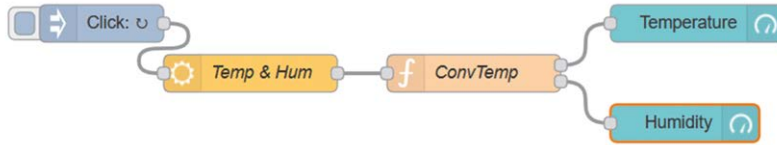

Figure 8.14 Flow program of the project
Node-RED flow program: Figure 8.14 shows the flow program which consists of 5 nodes: an **inject** node, an **openweathermap** node that reads the weather report, a **function** node with 2 outputs that formats the data, and two **gauge** nodes, one to display the temperature and the other one to display the humidity.
- Join all the nodes as in Figure 8.14 and click **Deploy**